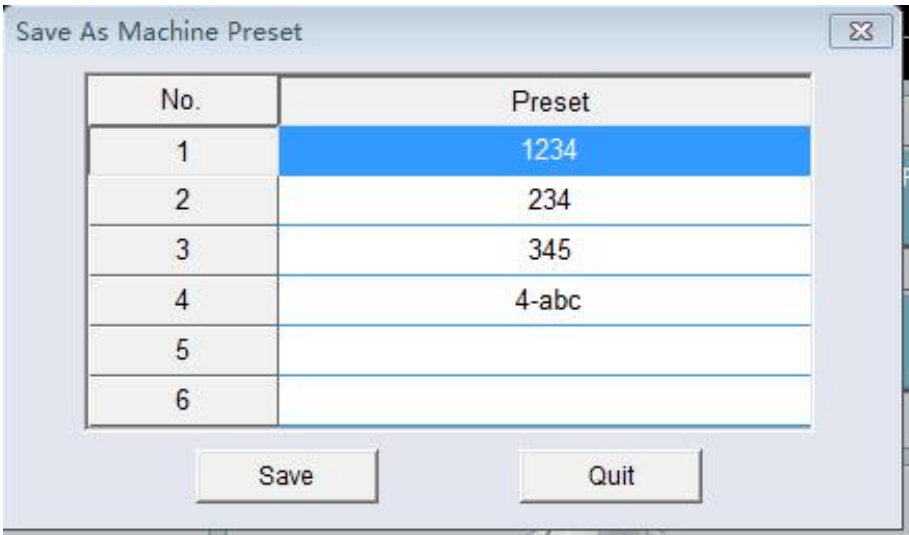

figure 3.4.5
Step2: Click "Load machine preset scene" item will pop up after loading machine preset scene window dialog box (Figure 3.4.5).
Step3: as dialog box of figure 3.4.5 , select the machine where the user wants to load a preset number (as selected on the 3rd), and then point below the "Load" button on the pop-up shown 3.4.6 loading data transfer progress shown in the wait window.